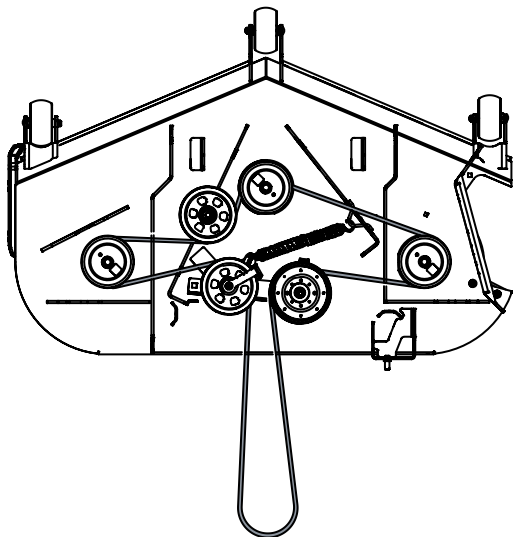

Figure 57
8. Route the belt as shown in Figure 57. Tighten and secure the idler arm hardware.